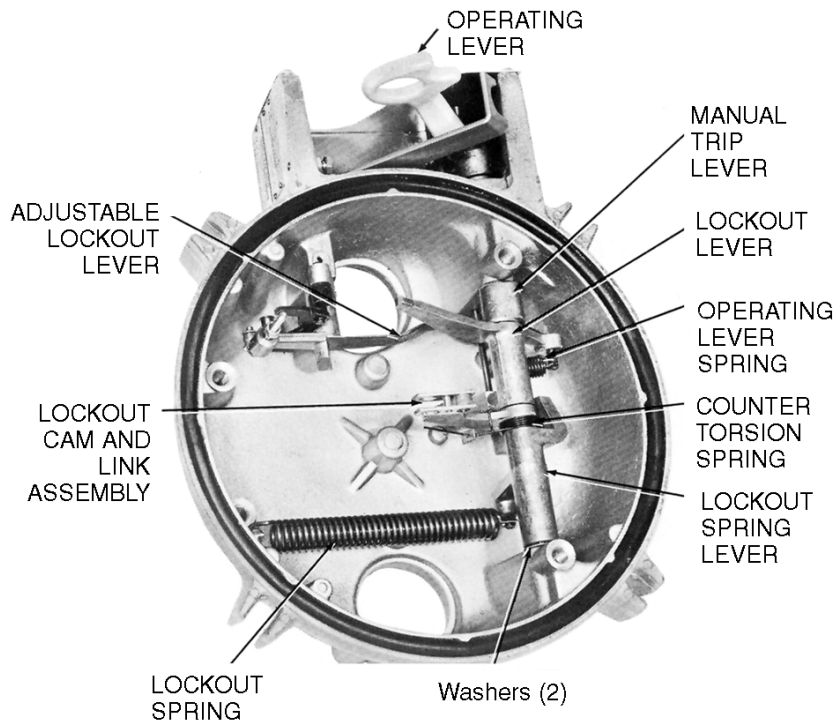

Figure 51. View of head mechanism
5. Figure 51 shows the head assembly as it appears after the operating mechanism has been removed. Unhook lockout spring and operating lever spring.